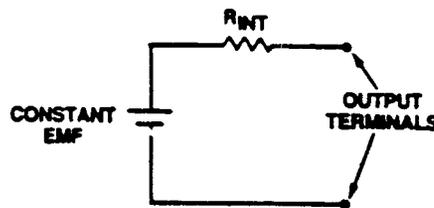

Fig 2
A convenient way of representing this effect is to assume that the practical source of emf consists of (1) an ideal source which develops a constant emf at any current, and (2) a resistance connected in series with this ideal source and the actual terminals of the source as shown in fig. 2.